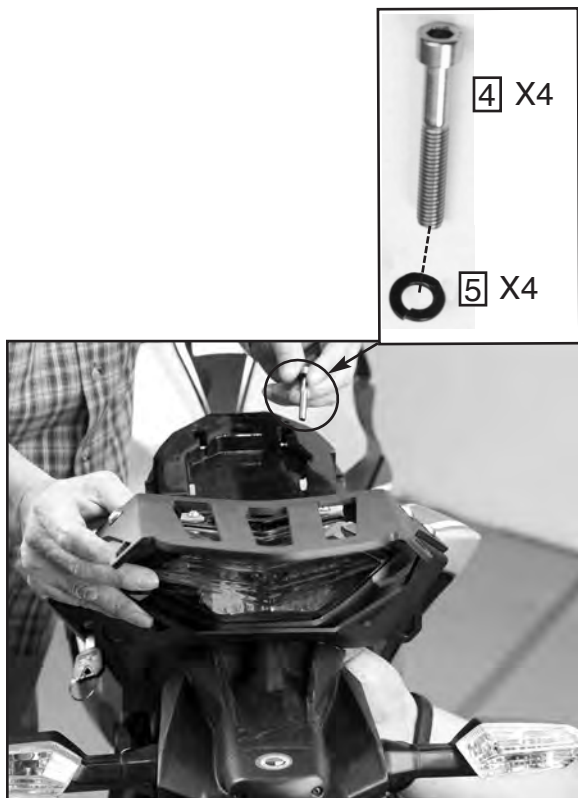

Figure 6
2. Install Rack with Screw (4) and Washer (5). Repeat at all four locations. (5mm Hex Wrench) Figure 6